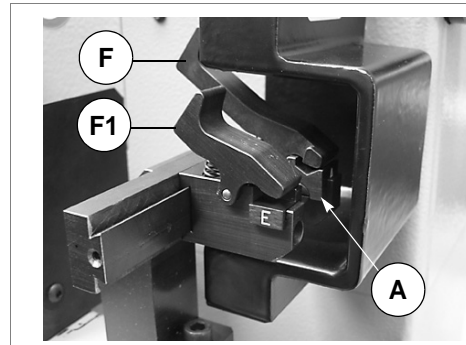

Fig. 73
- 3) Open the fixed clamp (A) and the mobile clamp (E) by exerting pressure on the jaw lever (F) and (F1) (fig. 73).